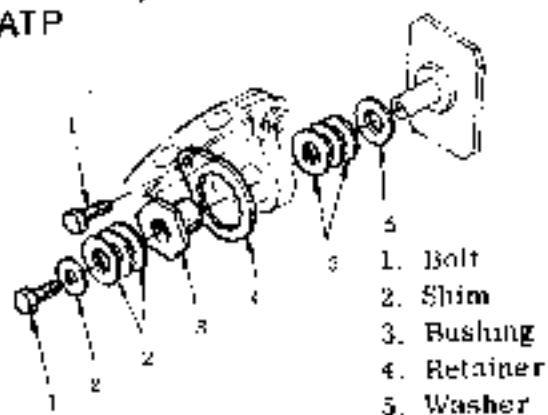

Fig. 5-29 Remove bolt at
- (4) Remove bolt connecting spoiler push rod at W. STA 4545 (See Fig. 5-29)